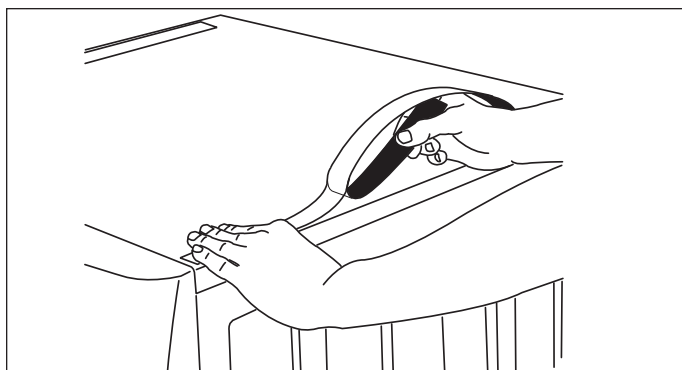

Figure 2-53.
2. Carefully remove BLUE backing from clear self adhesive strips. Apply to each side edge of the washer top. (See Figure 2-53)